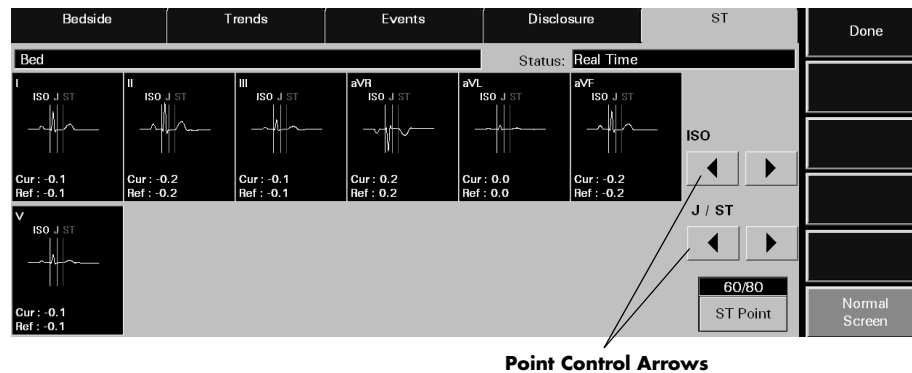

FIGURE 7-28 Point Control Arrows in ST Tab (5-wire Lead Set)
1. Select the **Config ST** sidebar button in the **ST** tab. The ISO, J/ST and ST Point controls (shown in FIGURE 7-28) are displayed in the ST tab.
Select the **Config ST** sidebar button to configure the ST templates in the **ST** tab. Selecting the **Config ST** sidebar button will display the controls (shown in FIGURE 7-28) needed to configure the ST templates. When the **Config ST** sidebar button is selected, it is replaced by the **Done** sidebar button.